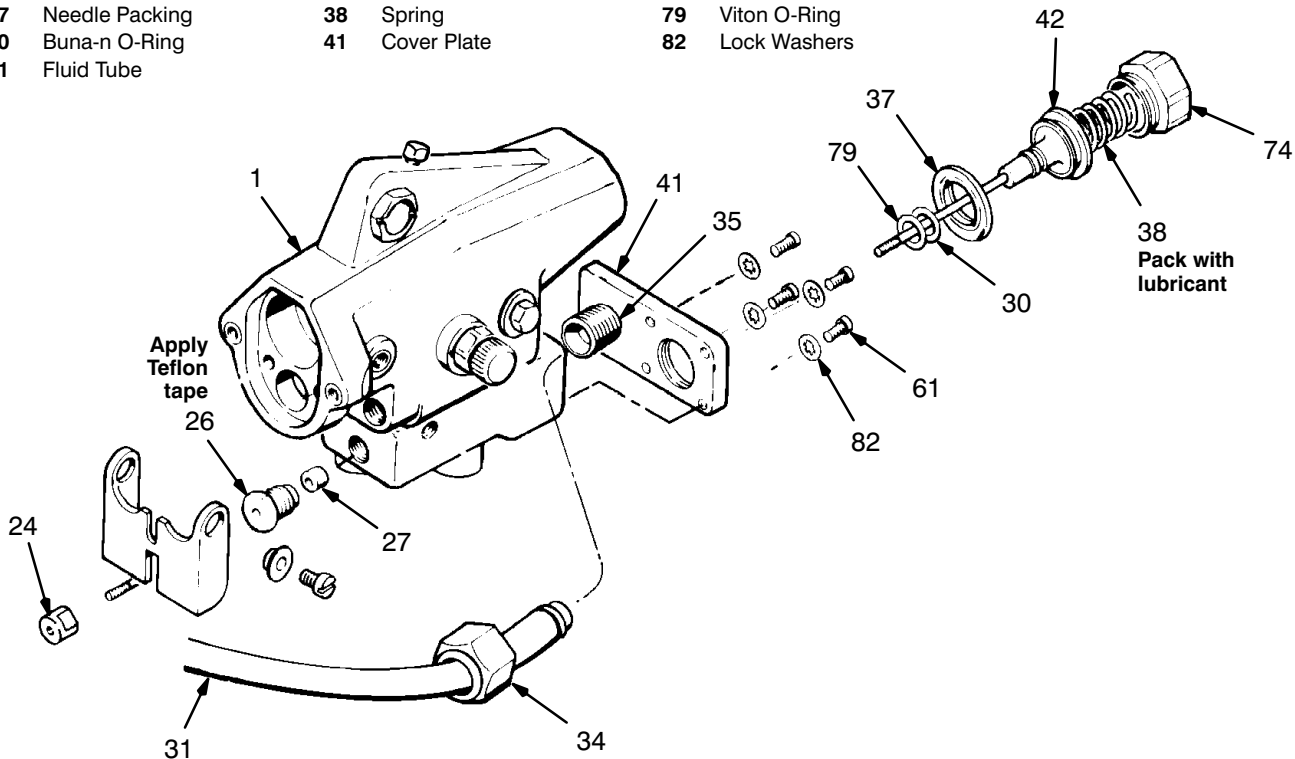

Fig 21
1. To disconnect the fluid hose (31) from the cover plate (41), screw the nut (34) off the adapter (35). See Fig 21.
2. Note the position of the trigger adjusting nut (24) for reinstallation, then screw it off the piston shaft.
3. Remove the screws (61) and lock washers (82) from the cover plate (41). Remove the cover plate (41), spring (38), and retainer cap (74).
4. Unscrew and remove the air valve guide (26) and needle packing (27) from the gun body (1),